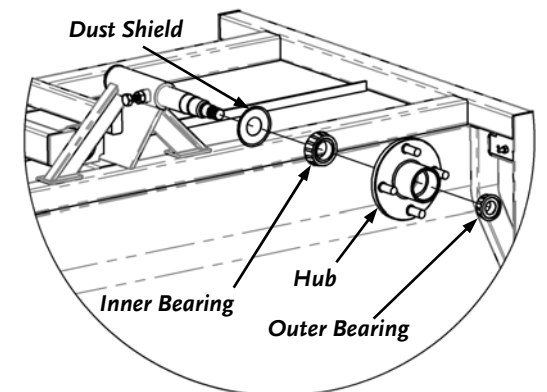

Figure 34
7. Pull the Hub off the Axle (**Figure 34**) which will bring the Outer Bearing with it.
10. Grease the Axle Shaft and slide a new Dust Shield, Inner Bearing (taper end pointing out) and the Hub back onto the Axle Shaft (**Figure 34**).
11. Grease the inside and outside chamfer of the Hub and slide the Outer Bearing back onto the Axle Shaft with the tapered end facing in until it is firmly seated inside the Hub (**Figure 34**).